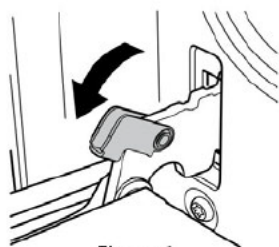

Figure 1
- Open the door to the maximum angle and pull the lock back on the hinge of the door (Figure1). There are two locks on both sides of the oven door.